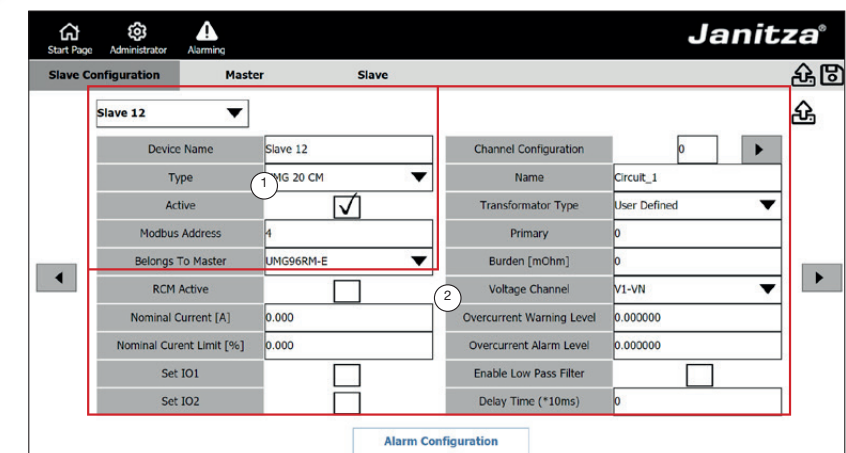

Fig. 14: Device configuration (slave)
To access a measurement device, configure the connection settings (Fig. 14 ①)
The configuration options (Fig. 14 ②) depend on the respective slave device.